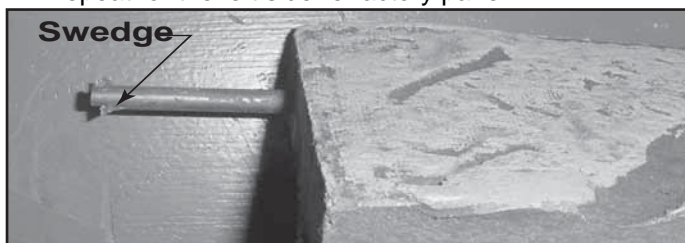
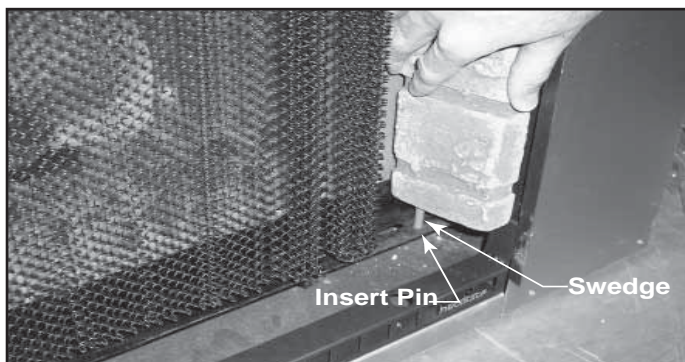

Figure 15.19 Swedge
Figure 15.20 Insert Pin into Bottom Frame
- Install rod with swedge (Figure 15.19) in hole in glass frame bottom. See Figure 15.20.